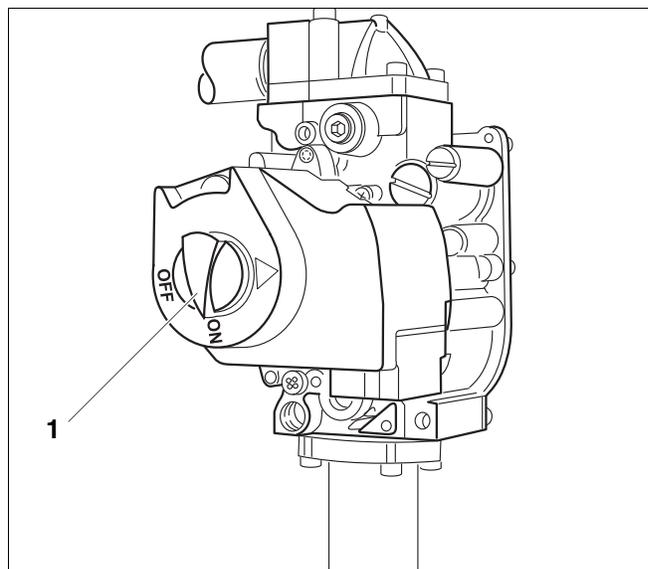

Fig. 3 Gas valve
8. Attach front panel of boiler (→ Fig. 3).